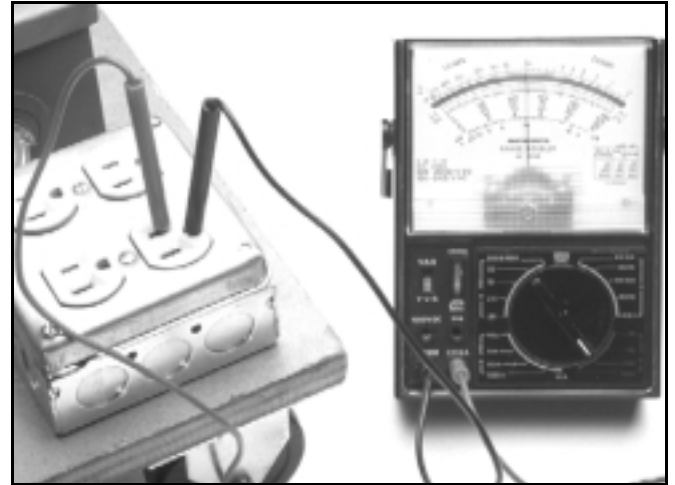

Figure 58
2. Place one probe in the round (ground) and the other in one of the two flat terminals. The voltmeter should read 110 VAC (Figure 58).